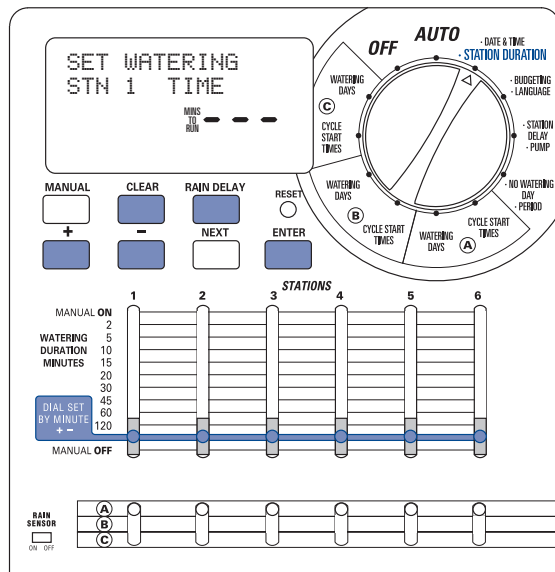

Figure 11: “Dial Set by Minute”
- Slide the **Watering Duration Slide Switch** to the **DIAL SET BY MINUTE** position (indicated by the solid white bar) for each station. [See Figure 11]